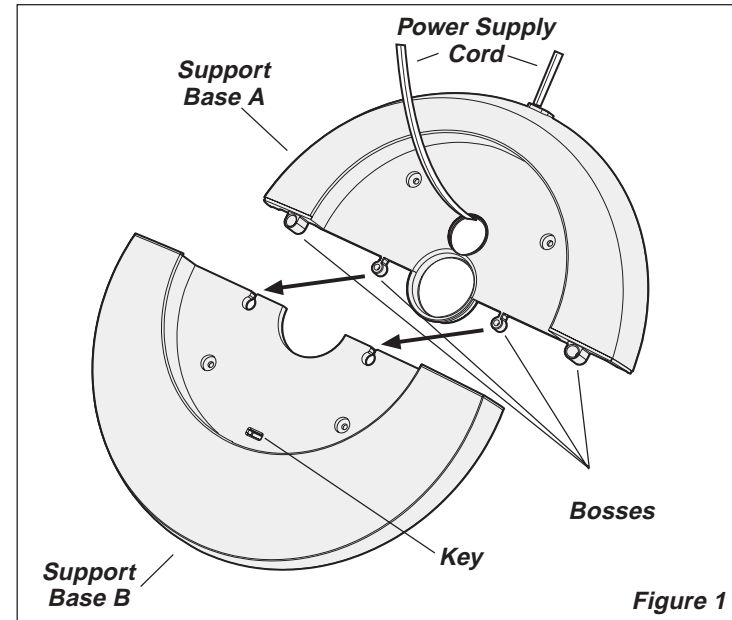
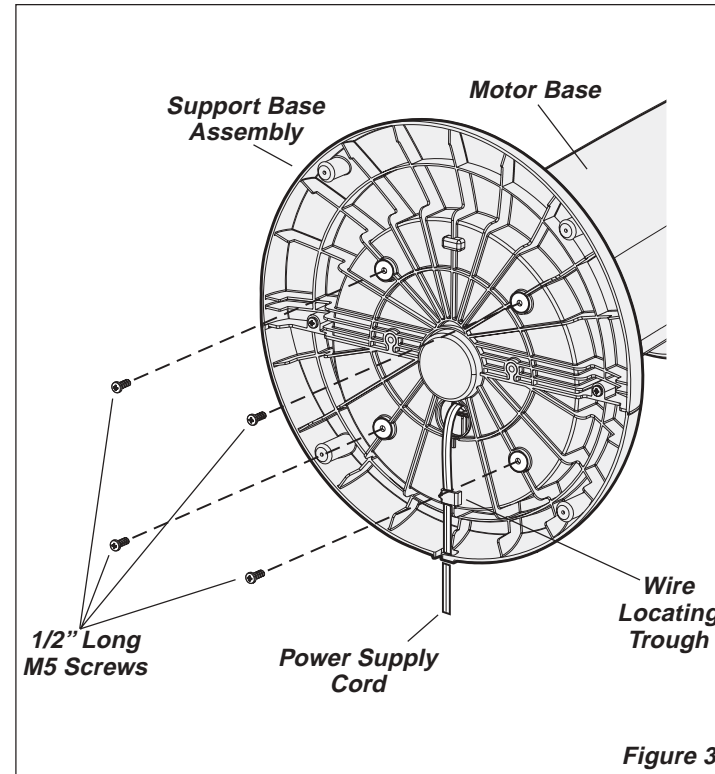

Figure 1
Figure 3
2. Assemble the Support Base Halves by interlocking the **Bosses** on **Support Base A** into the **Boss Holes** on **Support Base B**. Thread the **Power Supply Cord** through the large hole in the center of the **Support Base Assembly**. (Figure 1)
4. Align the **Support Base Assembly** with the **Motor Base**, noting that the cord channel on the bottom of the support base assembly should be towards the back of the Fan. Attach the **Support Base Assembly** to the **Motor Base** with (4) 1/2" Long M5 Screws. Make certain to align the **Key** on the **Support Base Assembly** with the **Locating Notch** on the **Motor Base**. (Figure 1) Gently pull any excess slack of the **Power Supply Cord** and place it in the **Wire Locating Trough**. (Figure 3)